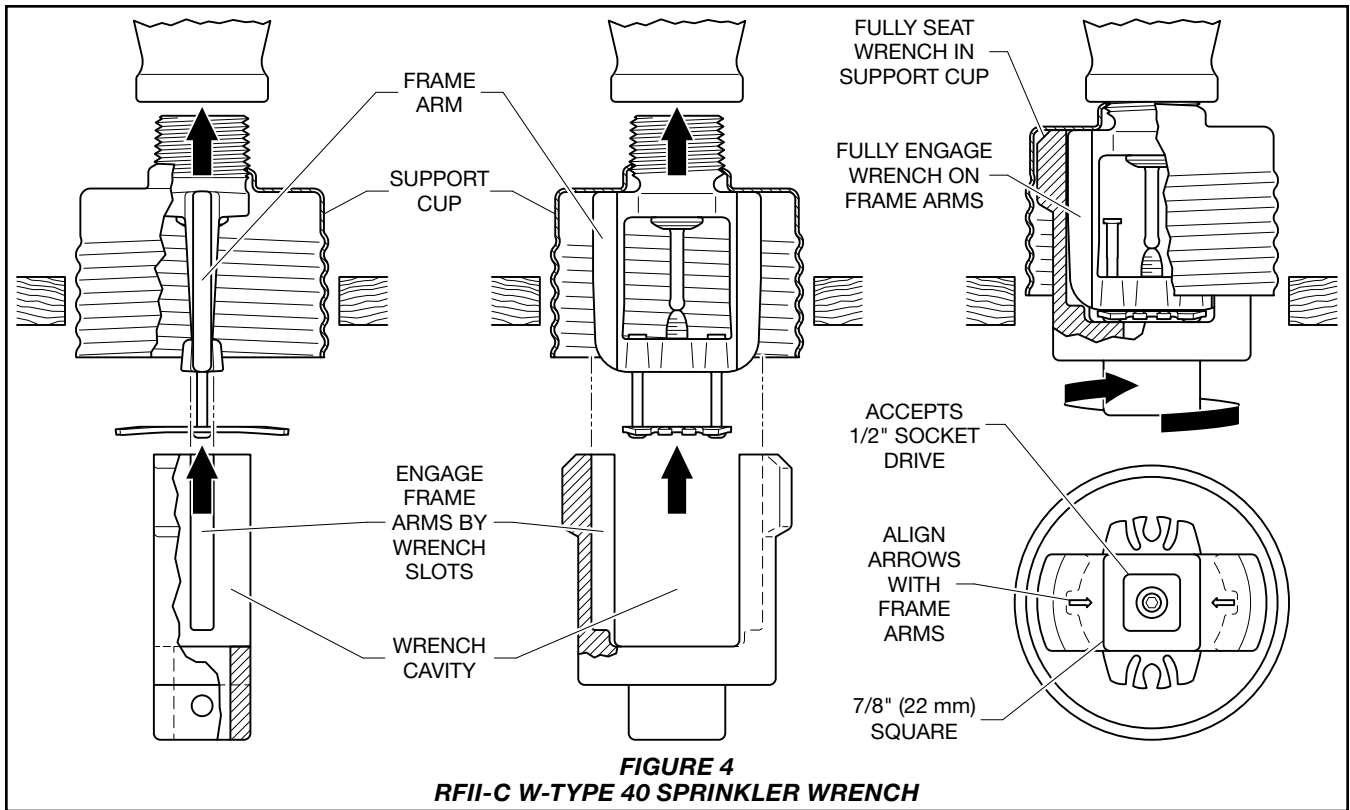

FIGURE 4
Step 4. Wrench tighten the deflector using only the W-Type 40 Sprinkler Wrench shown in Figure 4 so that the marking <-28 FT (8,5 M)-> on the deflector is in the direction of the 28 ft (8,5 m) coverage length. The
frame arms do not need to be aligned parallel to the sprinkler pipe. Apply the W-Type 40 sprinkler wrench to the sprinkler as shown in Figure 4.
Step 5. Replace the protective cap by pushing it upwards until it bottoms out against the support cup as shown in Figure 4.